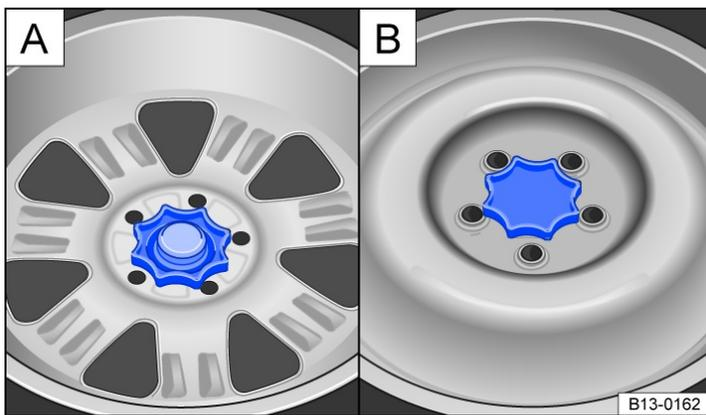

Fig. 1 In the luggage compartment: **A**: handwheel for securing spare wheel, **B**: handwheel for securing temporary spare wheel.
- Fully unscrew the handwheel in the middle of the spare wheel → Fig. 1 **A** or temporary spare wheel **B** anticlockwise.